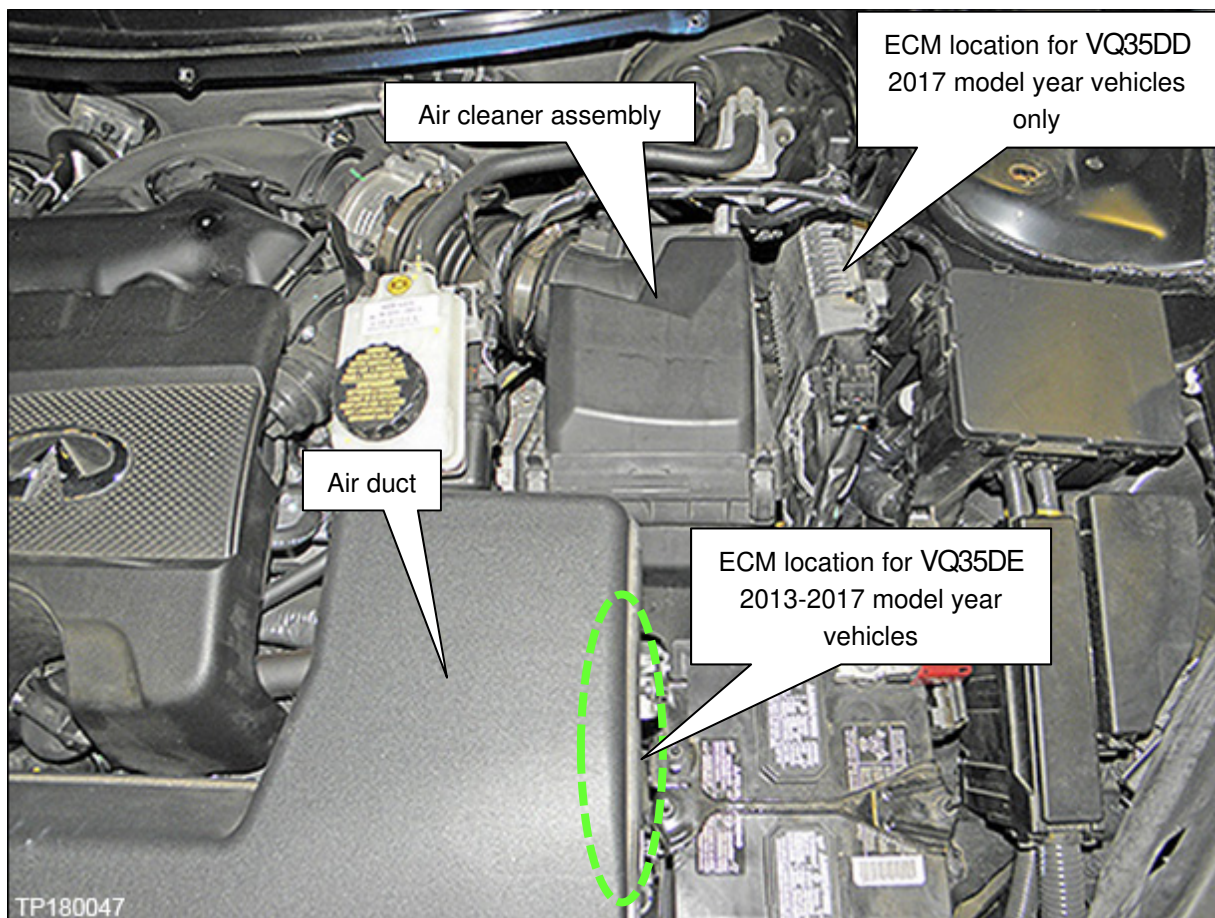

Figure 21
24. Remove the front air duct and the air cleaner assembly (Figure 21).
25. For 2017 model year vehicles with VQ35DD engine, disconnect and remove the ECM shown in Figure 21.